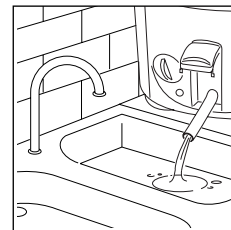

fig. 15
- Place the fryer on the draining surface of the sink and remove the oil drain tube (see previous paragraph 'oil drain tube'). Let the tube hang over the sink. Using a jug of warm soapy water and a soft brush gently clean the inside of the bowl, the dirty water will flow directly into the sink (fig. 15).